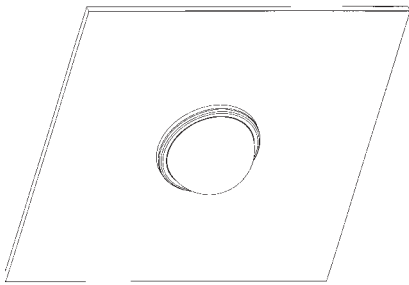

Figure 3
12. Attach the dome/trim ring by lining up the dots on the box and the trim ring. Push on one side of the trim ring near the flat section of the box, then push on the other side of the trim ring until it snaps into place. Listen for a distinct click to ensure ring is securely in place. See **Figure 3**.